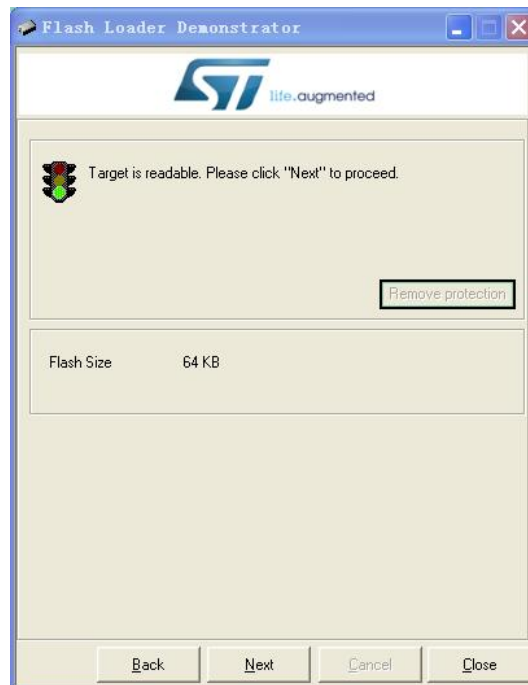
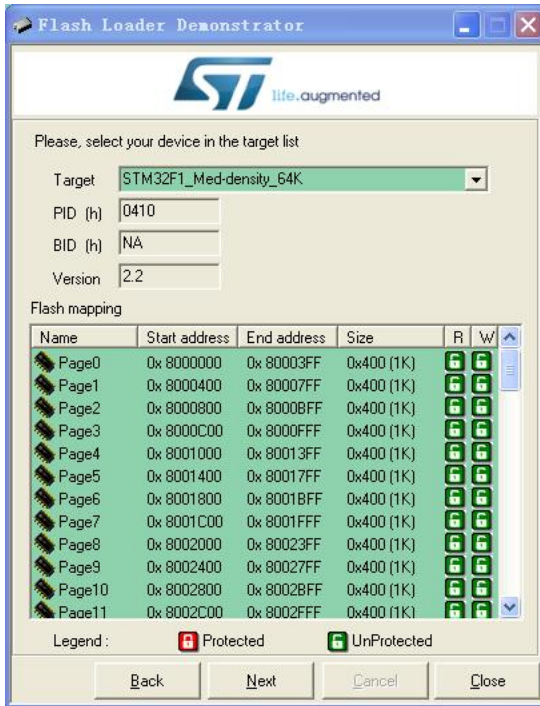

Fig. 6
Fig. 7
- 4) If there is no error you should see Fig. 6. This is a temporary state showing that the PC has successfully detected bootloader and the flash memory is readable or not. If you have problem to enter this state you can try reset the MCU by pressing on the Reset button on PCB and try again. If that still doesn't work check connection and JP1/JP2. Otherwise click on Next to proceed to next step as shown in Fig. 7.
- 5) Fig. 7 shows information about the MCU type and its flash memory. You just need to make sure the selection at Target dropdown is the same as shown in Fig. 7. Then click Next to proceed to next step.